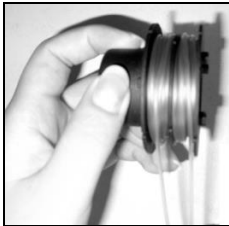

Fig 4C
3. Using 1.6mm replacement line, looping the line into 2 equal lengths. Insert looped center into slot of spool (Fig 4C&4D)